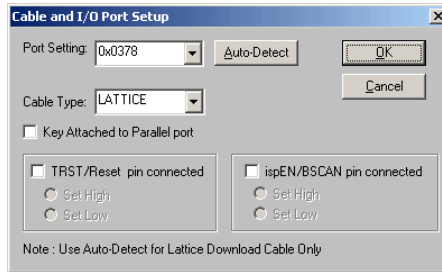

Figure 2-17. Cable and I/O Port Setup Dialog
1. Choose **Options** ⇒ **Cable and I/O Port Setup** to open the Cable and I/O Port Setup dialog (Figure 2-17).